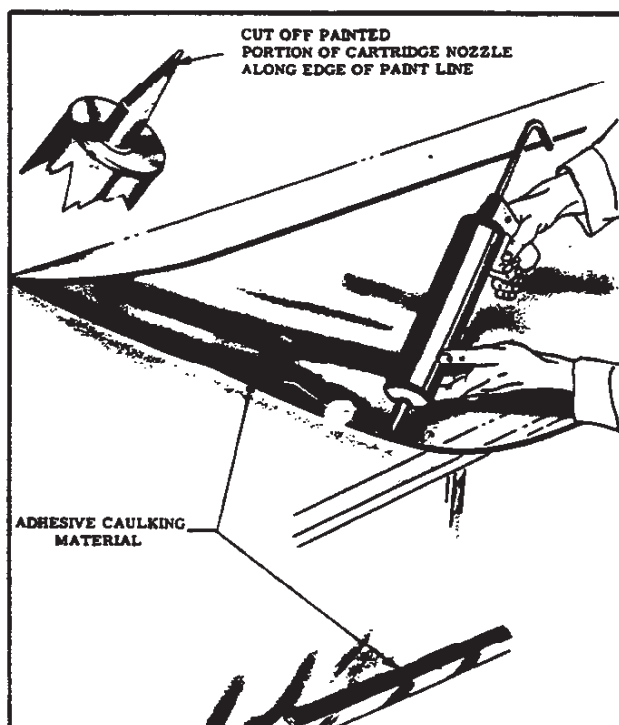

Fig. 14—Applying Caulking Material to Glass
21. Carefully apply a smooth continuous bead of caulking material on inside surface of glass next to edge completely around glass (fig. 14). Caulking material should be approximately 1/4 inch wide at the base and form a pyramid 3/8 inch high. If during application the pyramid collapses, wait about 2-3 minutes for material to set up. If an air bubble is encountered in material, back up the applicator and apply sufficient material to fill void and to dispense the bubble before continuing.